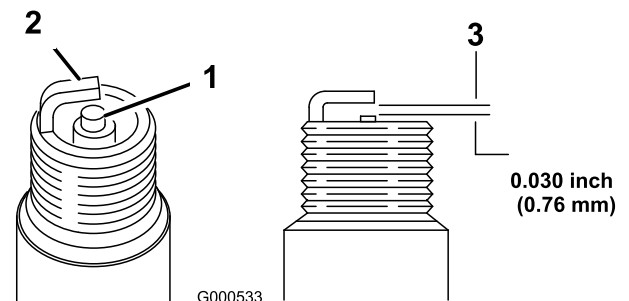

Figure 23
1. Inspect the spark plug (Figure 23).
2. Check the gap between the center and side electrodes (Figure 23). Bend the side electrode if the gap is not correct.